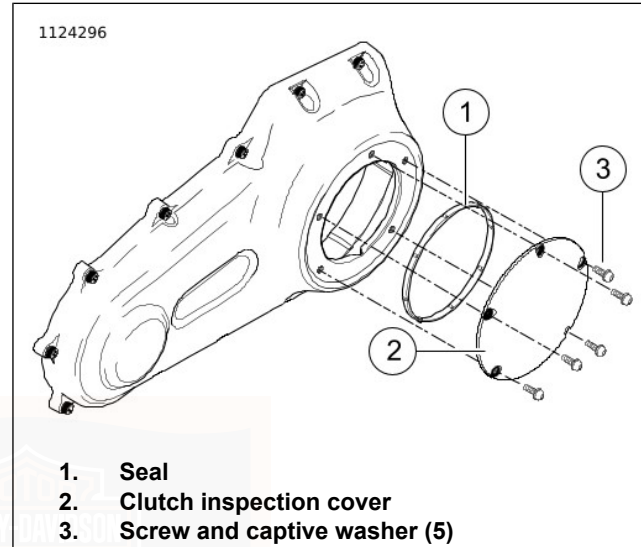
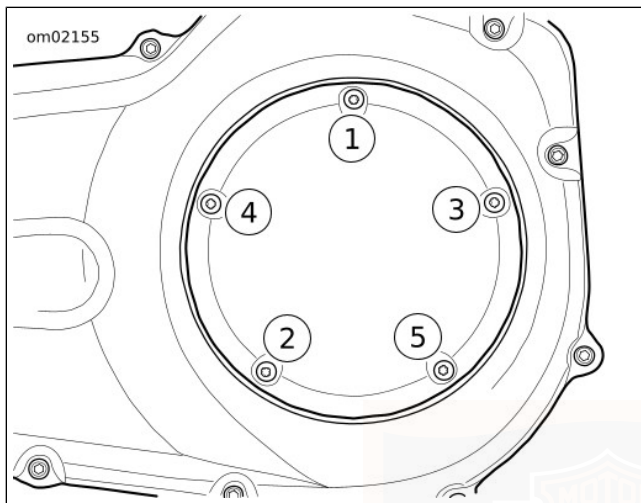

Figure 54. Clutch Cover (Typical)
Figure 55. Clutch Cover Tightening Sequence
6. See Figure 54. Remove screws (3) and clutch inspection cover (2).
7. Remove seal (1). Wipe oil from groove in chaincase cover and mounting surface.
- b. See Figure 54. Position **new** seal (1) in groove in clutch inspection cover (2). Press each of the nubs on seal into the groove.
- c. Secure clutch inspection cover (2) with screws with captive washers (3).
- d. See Figure 55. Tighten in sequence shown to 9.5–12.2 N·m (84–108 **in-lbs**).